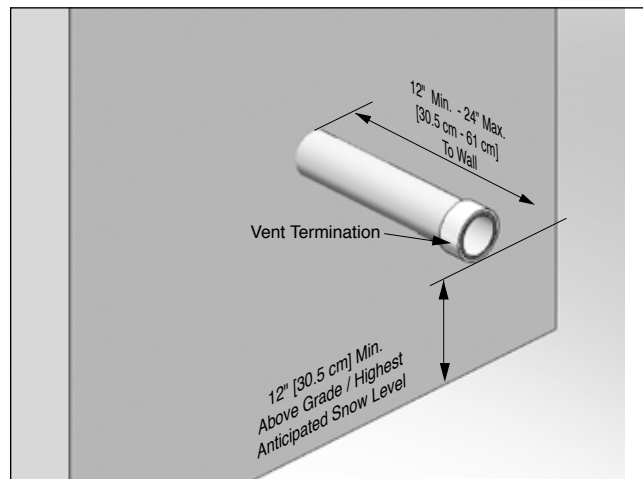

Fig. 18 - Category IV - Sidewall Termination of Vent Pipe
- Using a coupling as shown in *Fig. 18*.
- Using a coupling as shown in *Fig. 18 on page 27*.